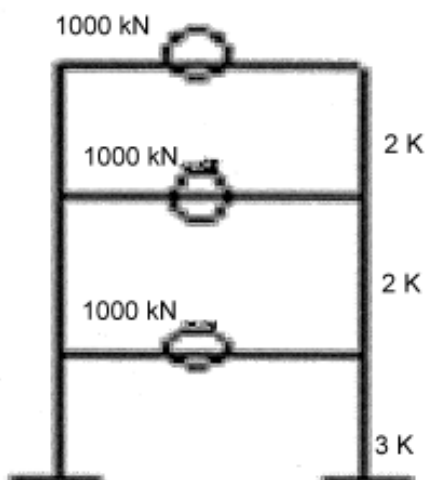

Figure 1
4. For a rigid frame shown in fig. 1, write the equations and calculate the first frequency of vibration and corresponding model shape. Take $K = 1000 \text{ KN/m}$. 18